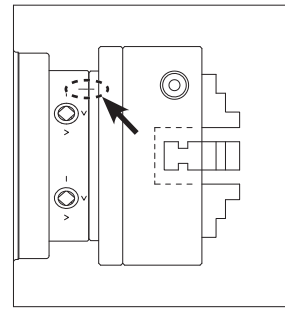

Figure 20. Chuck timing marks aligned.
6. If equipped, align the chuck-to-spindle timing marks (Figure 20), and slide the chuck onto the spindle.